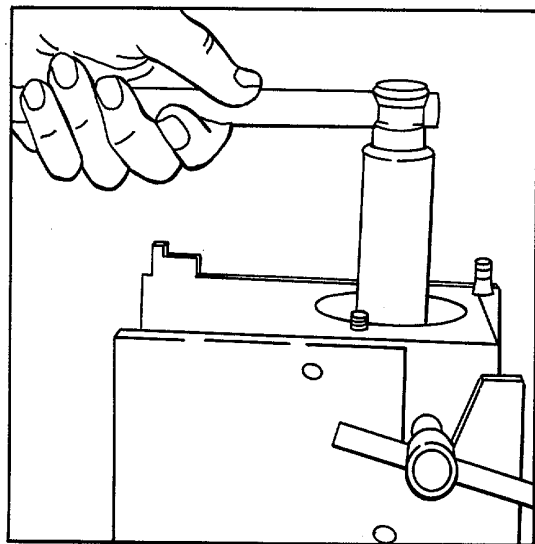

Figure 25. Removing Injector Nut using Tool J 4983-01
4. Invert the fixture and, using socket J 4983-01, loosen the nut on the injector body (Fig. 25).